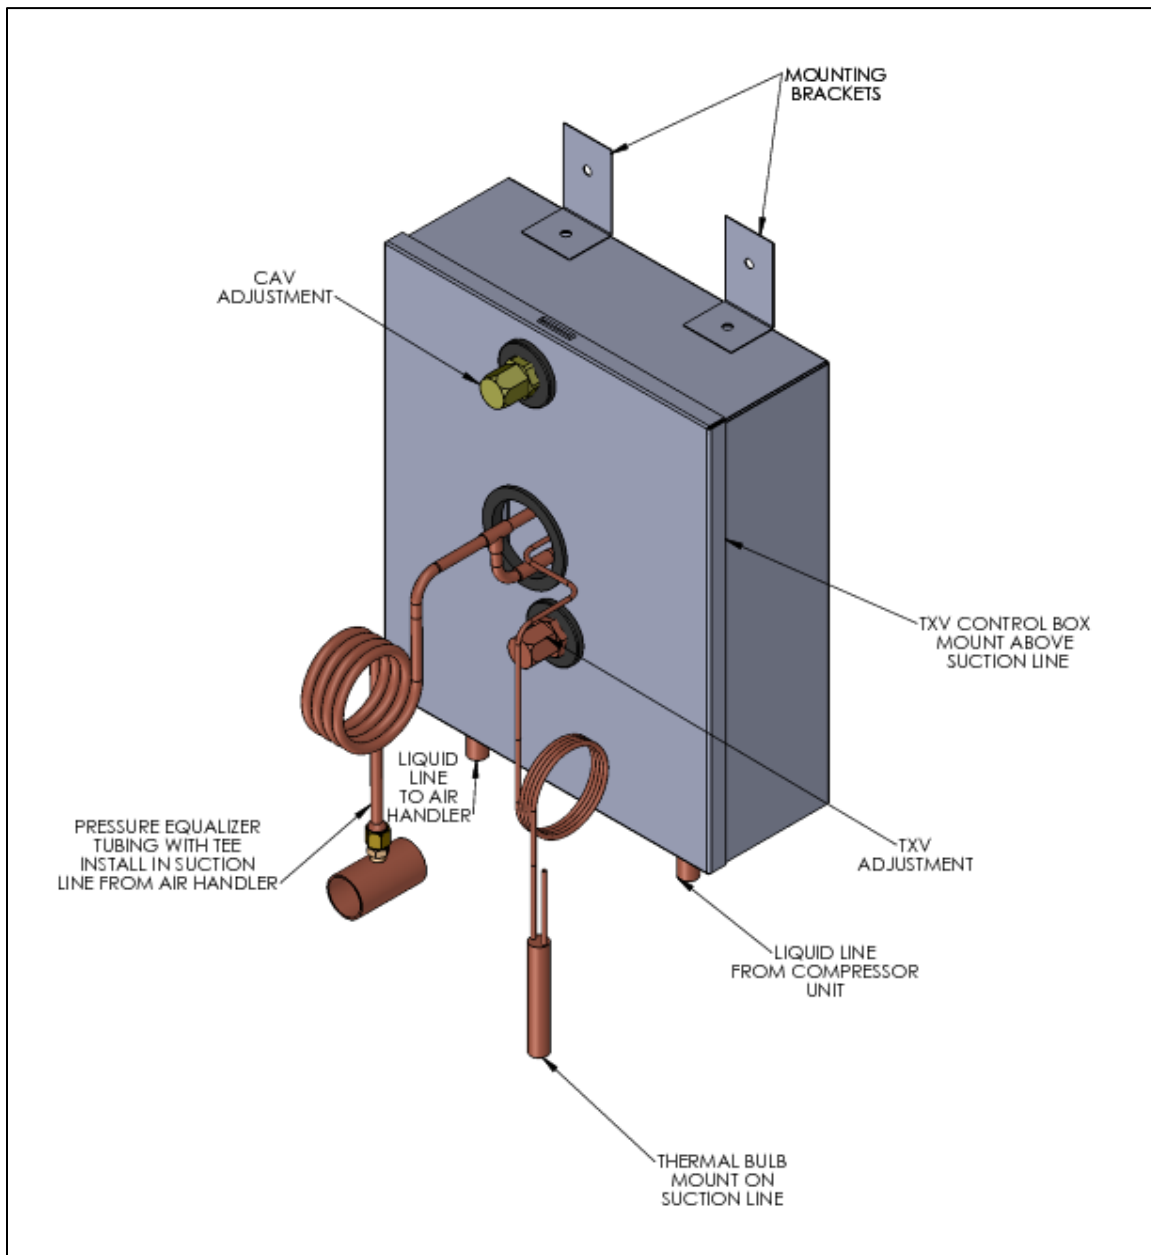

Figure 7. TXV Control
Figure 7 illustrates the TXV Kit as shipped with the external parts for field installation identified. The TXV (thermal expansion valve), CAV (cooling assist valve) and interconnecting tubing are located inside the control box to ensure performance.
Step 5: Measure and cut copper tubing to connect the liquid line from the TXV control box to the liquid line stub out on the air handler as shown in Figures 7 and 13. Run the other liquid line from the connection on the TXV control box to the compressor unit, also shown in Figures 7 and 13. Nitrogen braze the joints.